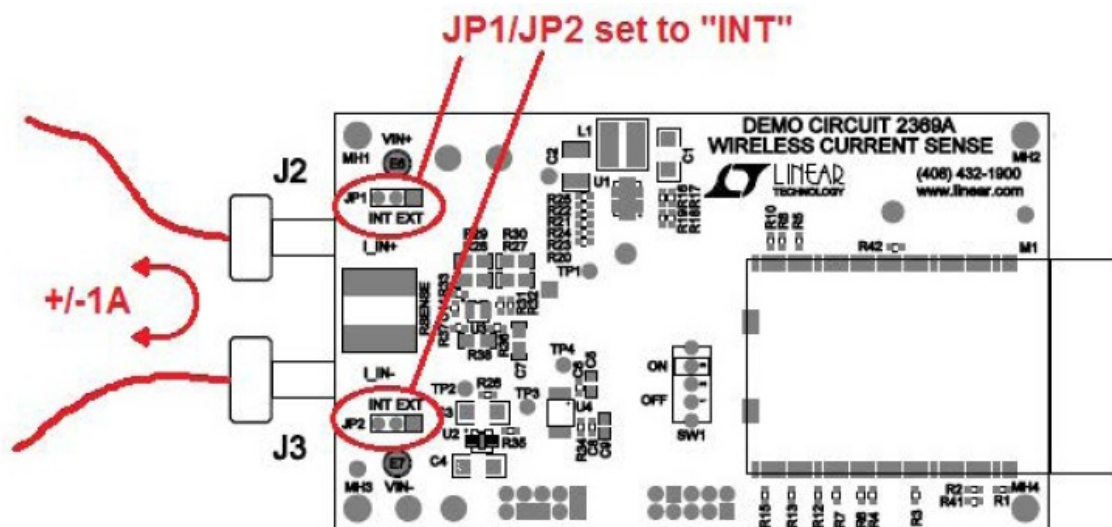

Figure 1. DC2369A Connections and Jumpers for Internal Sense Resistor
2. The only external connection needed to the DC2369A is for the current to be measured. The DC2369A circuitry does not draw its power from this current – it only uses it to develop a small voltage drop across the included 10m $\Omega$  sense resistor. The DC2369A is designed to measure up to  $\pm 1A$  full-scale current, developing a  $\pm 10mV$  voltage drop across the sense resistor. Connect the current to be measured using the banana connectors (J2 and J3). Set jumpers JP1 and JP2 to the INT position (to use the internal sense resistor). See Figure 1.